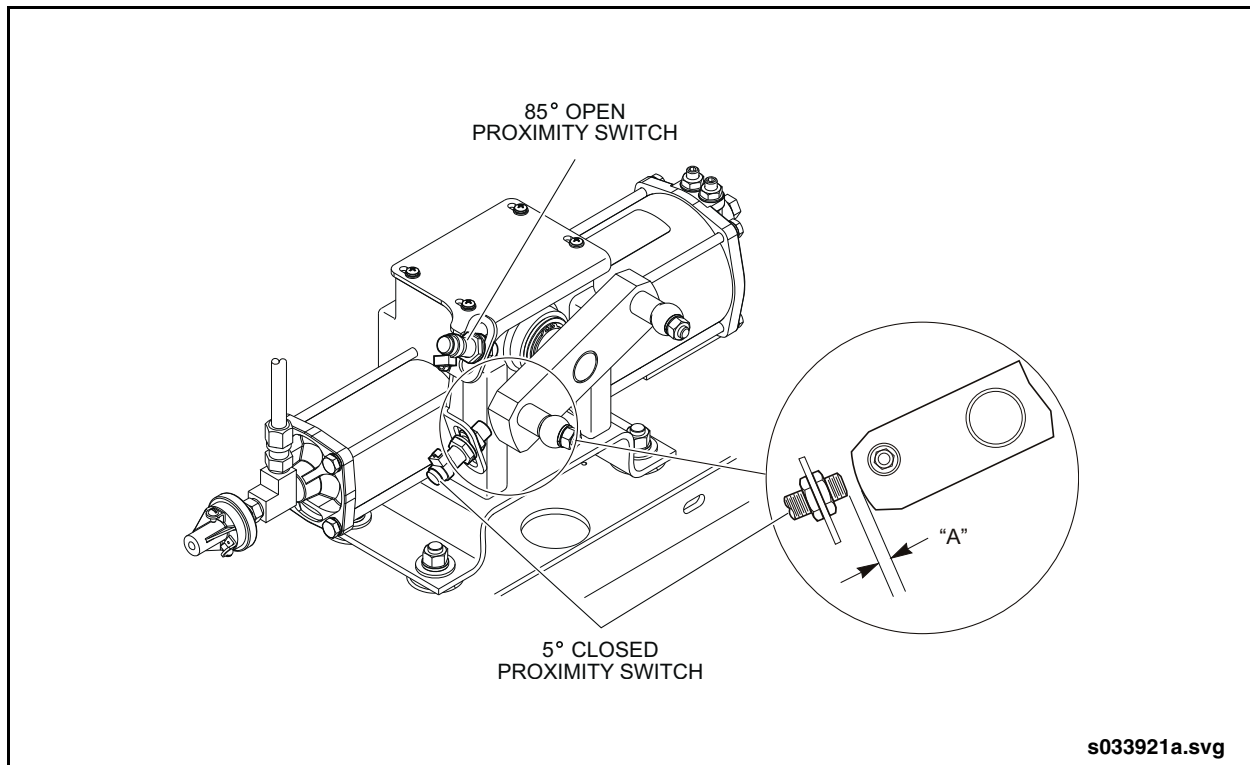

Fig. 2: Proximity Switch Adjustment - Door Closed
2. Adjust proximity switch in or out as required to obtain a 0.080 ± 0.010 inches (2.00 ± 0.13 mm) (Dim. "A") gap between the end of the switch and the flat of the output lever. See "Fig. 2: Proximity Switch Adjustment - Door Closed" on page 3.
4. Adjust proximity switch in or out as required to obtain a 0.080 ± 0.010 inches (2.00 ± 0.13 mm) gap between the end of the switch and the flat of the output lever. The Dimensions in Fig 2 also applies to the door open proximity switch.